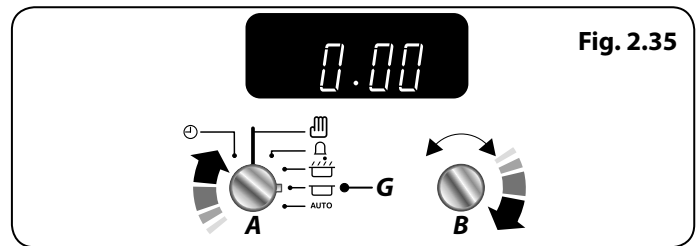

Fig. 2.35
1. Turn the **Timer (A)** knob to the **Stop Time (G)** setting (Fig. 2.35).
2. Turn the **Adjusting (B)** knob clockwise, the display will show the current time of day (Fig. 2.35).